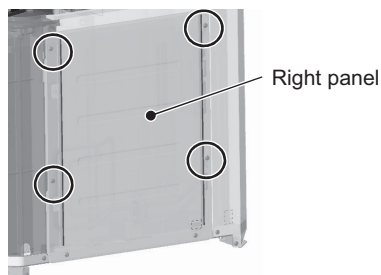

Figure 1
- (1) Remove the front heat exchanger. Refer to [8-13-12 Maintenance Procedures for the Heat Exchanger <Type A/Type A1/Type TR>] for details.
- (2) Remove the top, front, and right compressor covers. Refer to [8-13-7 Compressor Replacement Procedure <Type A>] or [8-13-8 Compressor Replacement Procedure <Type A1/Type TR>] for details.
- (3) Remove the duct from the control box. Refer to the control box replacement procedure for details.
- (4) Remove the right and inside (right) compressor panels by unscrewing the four screws. (Applicable only to the S-module. See Figures 1 and 2.)